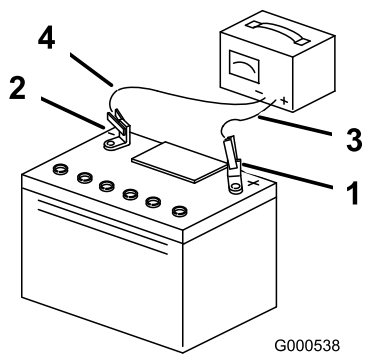

Figure 30
3. When the battery is fully charged, unplug the charger from the electrical outlet, then disconnect the charger leads from the battery posts (Figure 30).